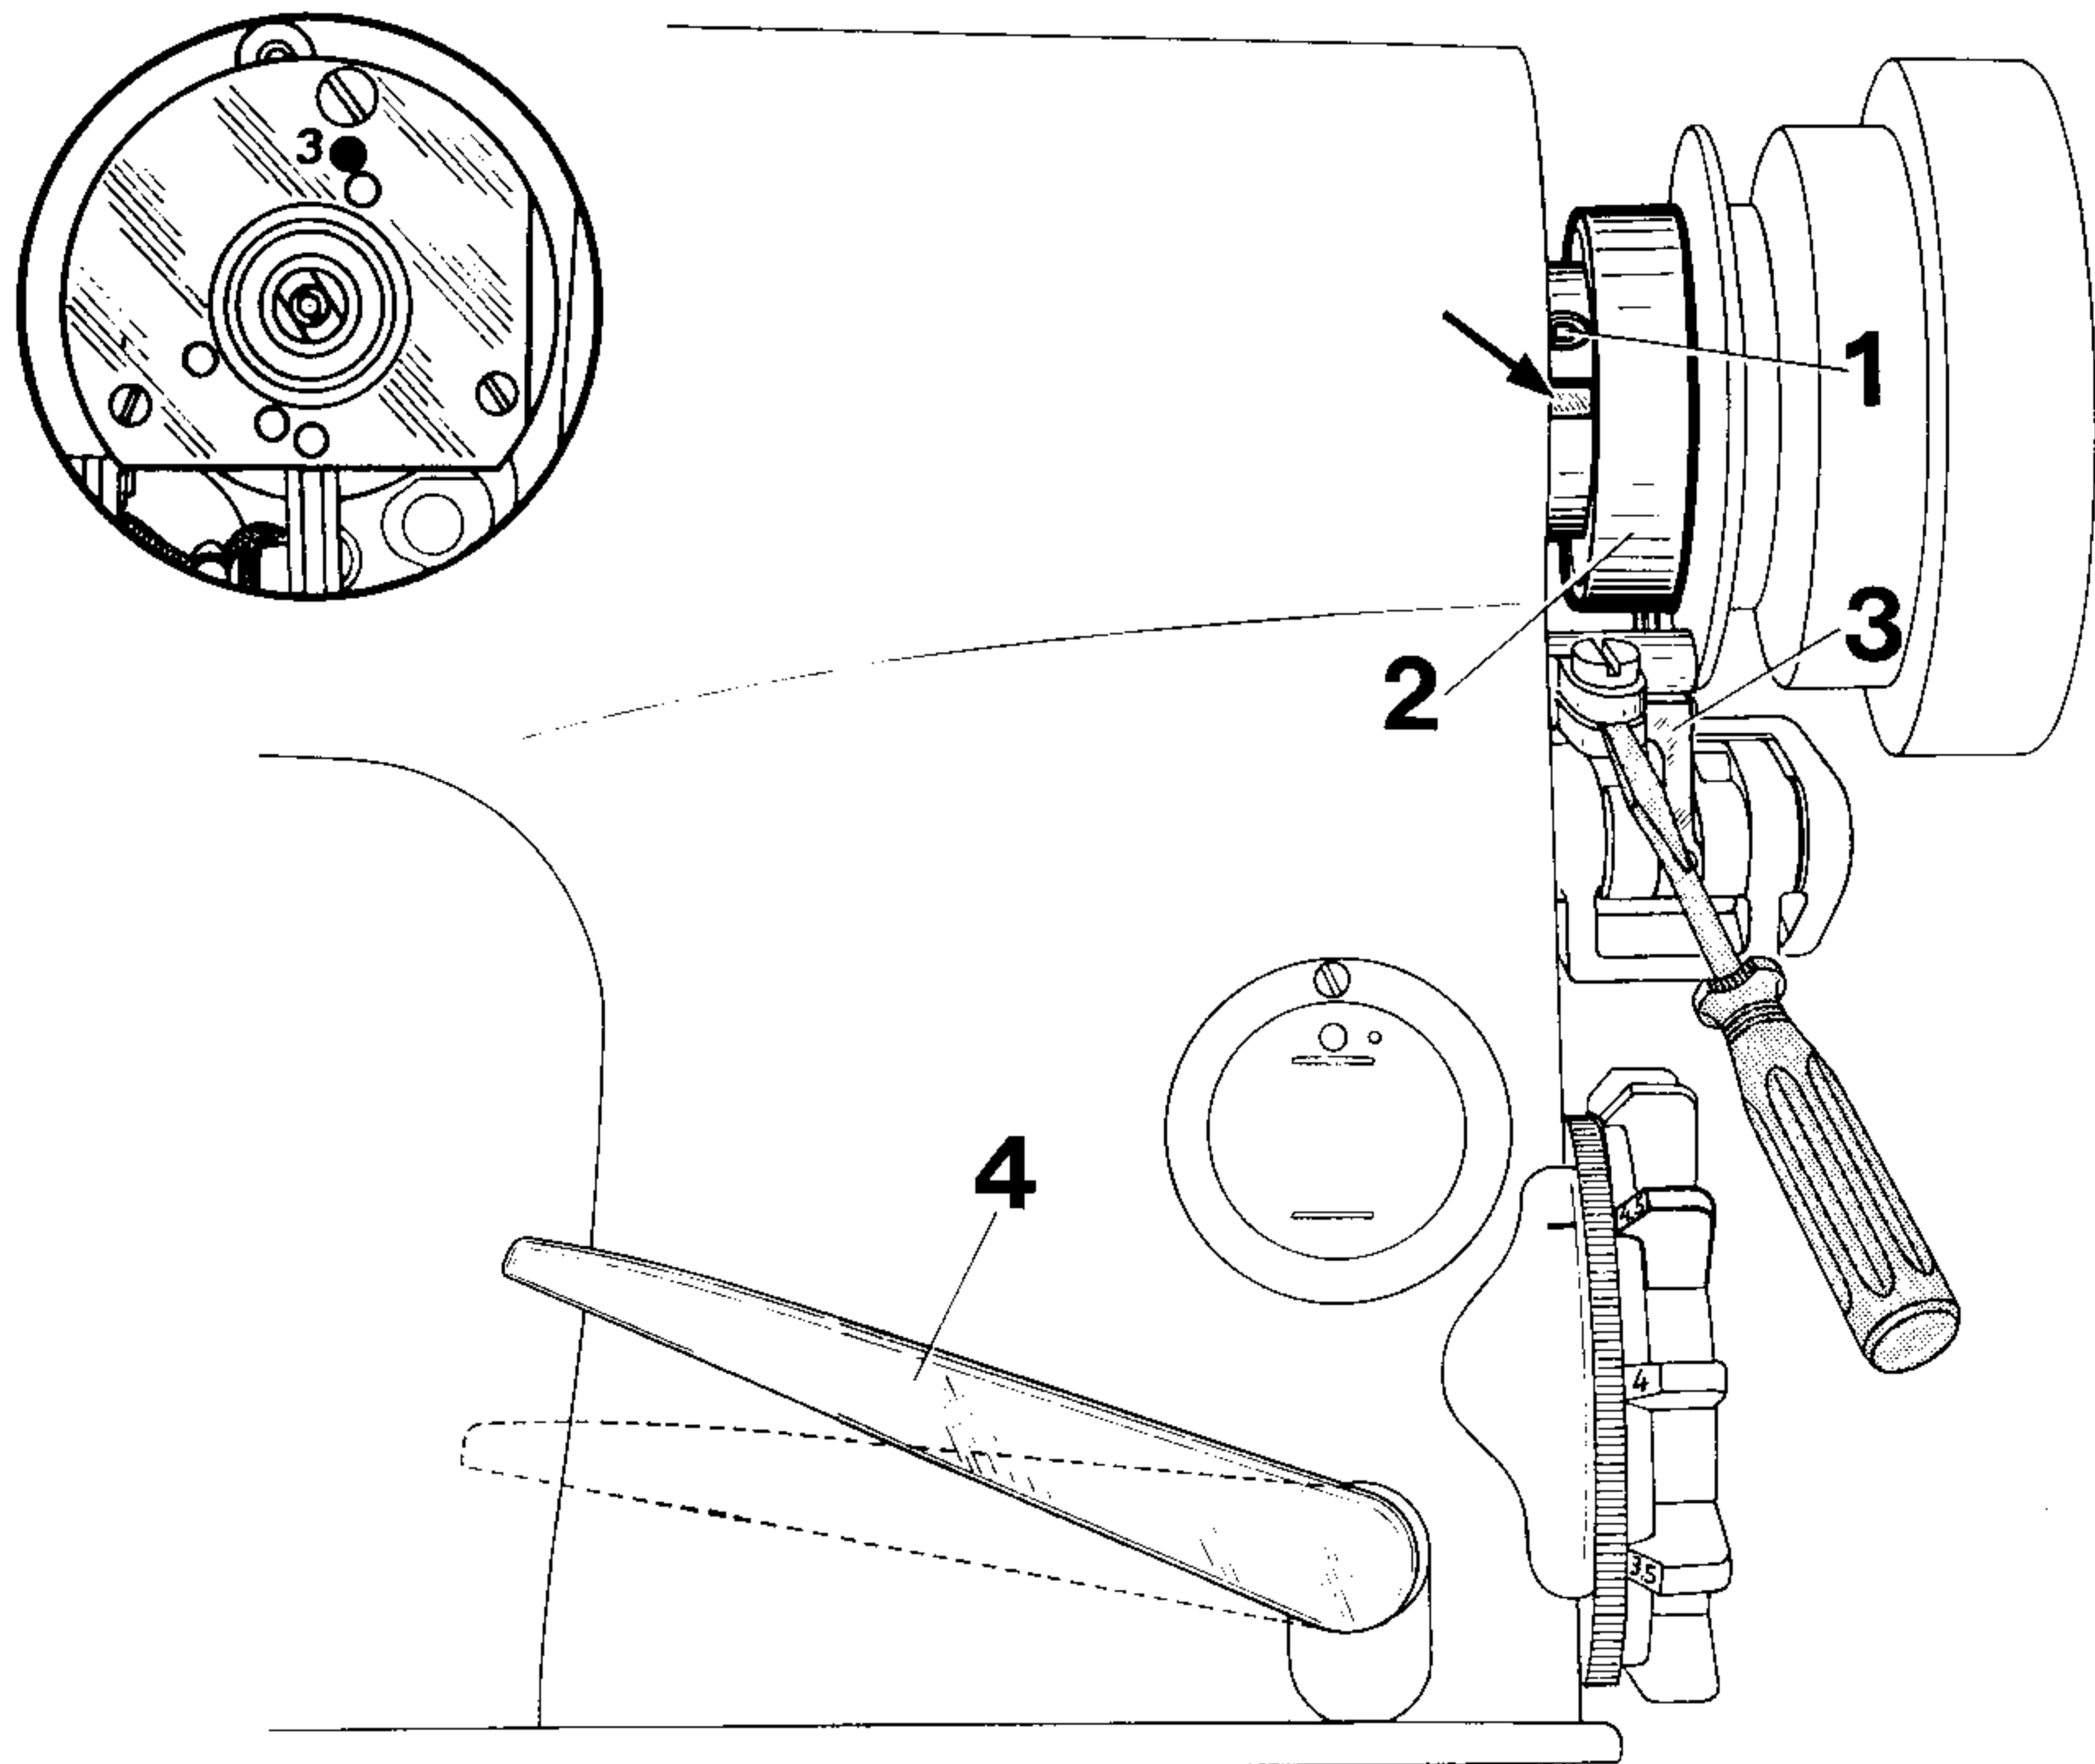

Fig. 7.0.1.
- 7.3. Turn needle feed eccentric **2** so that its slot points forward (see arrow in Fig. 7.0.1.).